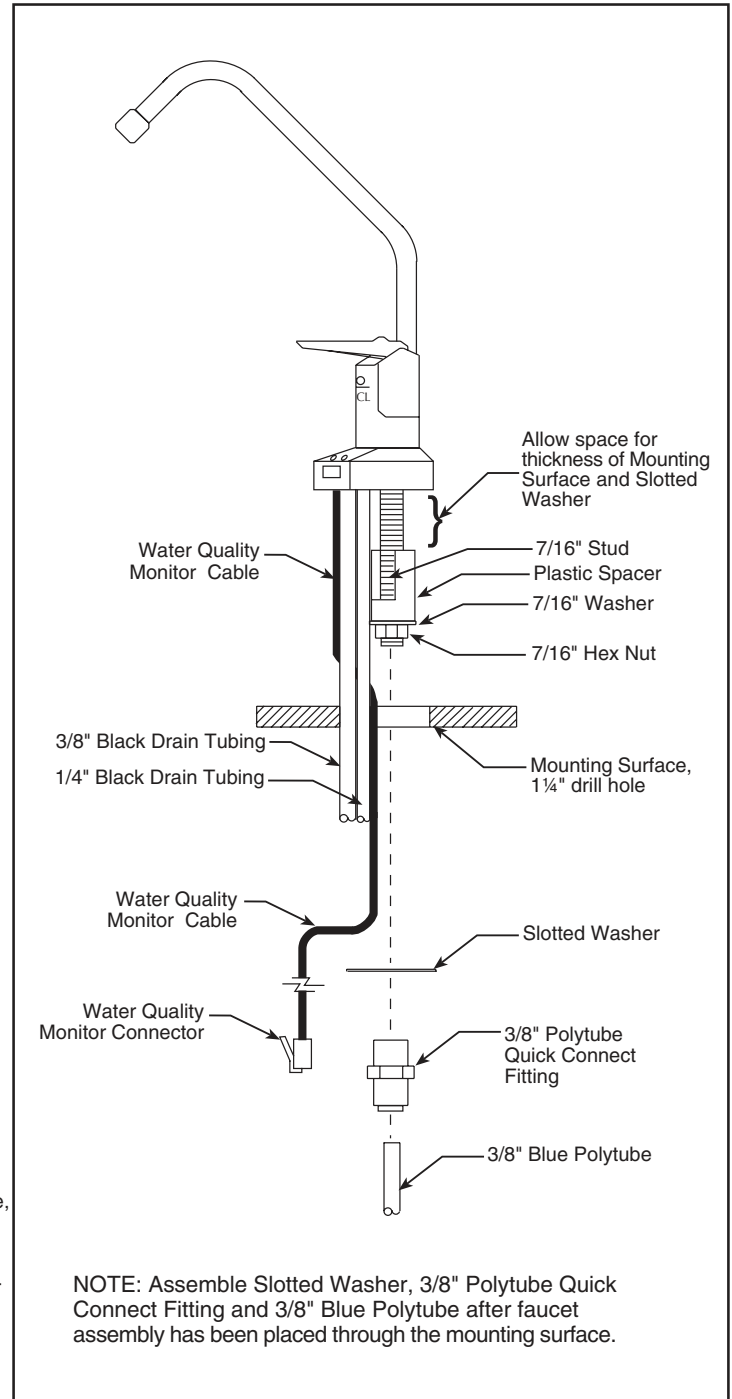

Figure 2B
- From the top of the counter place the stud, tubing and Water Quality Monitor Connector Cable through the mounting hole. See Figure 2B, page 9.